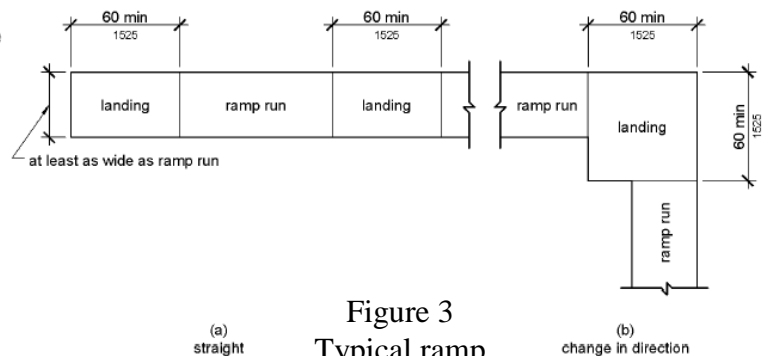

Figure 3
3. Landings (see fig. 3 below): Ramps shall have level landings at the bottom and top of each run. Landings shall have the following features: